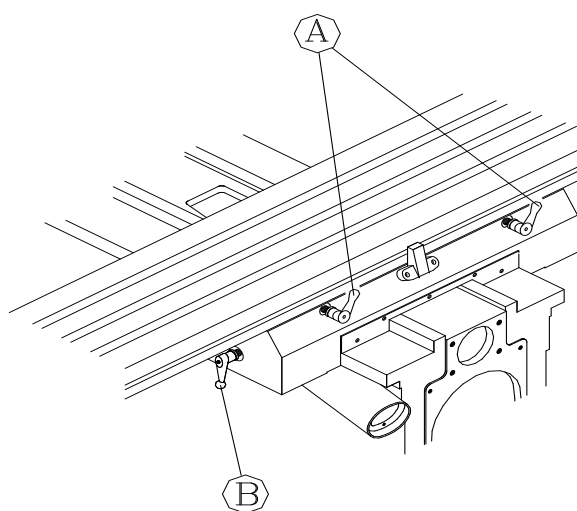

Fig 6-8
6.2.4 Fix the Worktable, and Saddle. (Fig. 6-8)